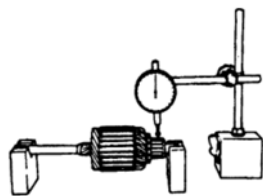

Figure 6.2-4
- (2) Check the collector for uneven friction. In case of bent armature shaft, replacement is a must. If the armature shaft is not bent, Check the non-roundness of the collector according to Figure 6.2-4. If the deflection of indicator of dial gauge exceeds the limit, repair or replace it.